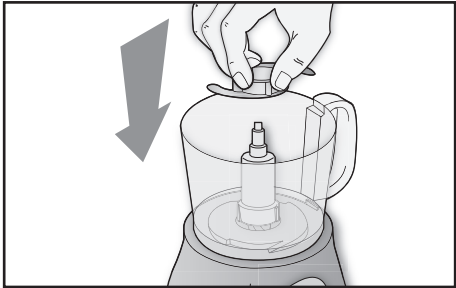

Fig. 5
- To use the appliance as a chopper, fit the metal blade (J) onto the blade support (L), while for mixing, fit the plastic blade (K) by making sure that the slots inside the base of the blade are in line with the notches in the support and pressing the blade downwards (Fig. 5).